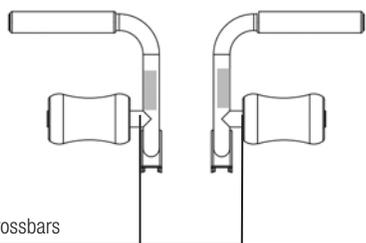
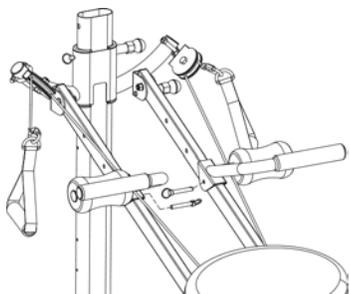

FIGURE 1
FIGURE 2
If the Stopper at the bottom of the Vertical Column has not already been installed, please do so now. Locate the Stopper which is packed in Miscellaneous Accessories (**See** Product Specifications on page 4 of this manual). Unscrew nut on the end of the Stopper and remove. Insert the Stopper into the hole located in the center of the Back Crossbar (See Fig. 1). Screw the nut back onto the Stopper and tighten with Allen Wrenches provided (See Fig. 2).
2. Then attach Foam Pads on the Crossbars as shown in Figure 1. Let dry before beginning to exercise with the Wing Attachment.
3. Insert the 2 Short Hitch Pins through the holes on the Wing Attachment Brackets and the hole on the Rails, as shown in Figure 2.
2. With the small end of the Ab Crunch Board closest to you, securely attach the appropriate Handle with 4 Flat Washers, Spring Washers and Hex Bolts with Hex Wrench provided. See Fig 1.